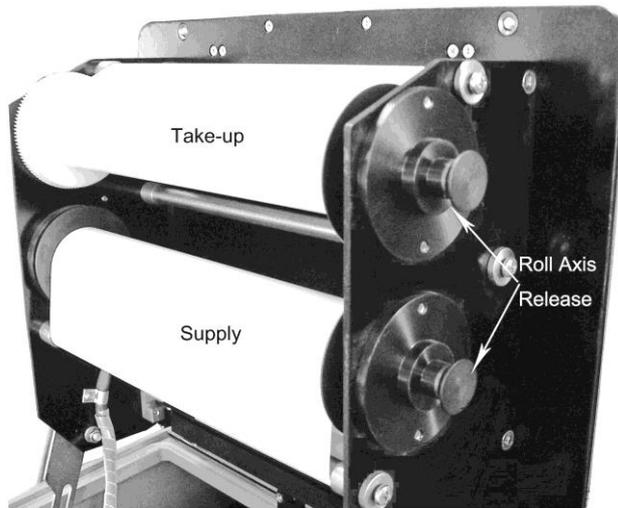

Fig. 3-4 Paper Supply & Take-up Rolls
- E. Remove any remaining paper from the paper path, release the roll axis and remove the spent supply roll from the holder mechanism (Fig. 3-4). Use the same motion in order to remove the take-up roll from its holder mechanism.